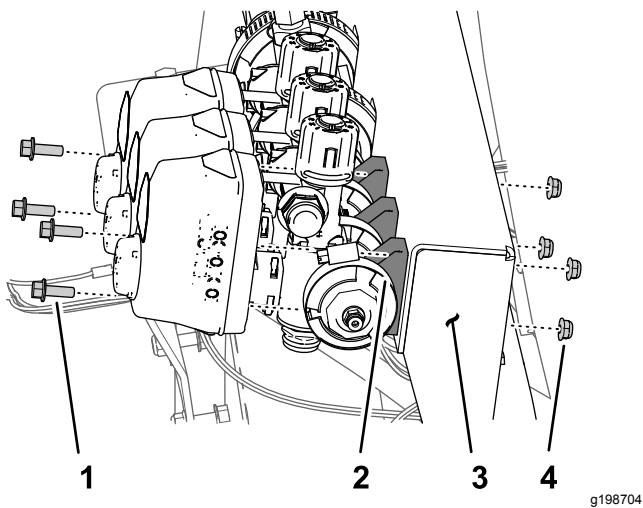

Figure 68
1. Remove the 2 flange-head bolts (1/4 x 3/4 inch) and 2 locknuts (1/4 inch) that secure the left boom-section valve to the manifold mount (Figure 68).
- Remove the 2 flange-head bolts (1/4 x 3/4 inch) and 2 locknuts (1/4 inch) that secure the right boom-section valve to the manifold mount (Figure 68).
- Remove the flange clamp 40 to 64 mm (1-9/16 to 2-1/2 inches) and gasket 25 x 35 mm (1 x 1-3/8 inches) that secures the flange of the left section valve to the adapter (Figure 68).